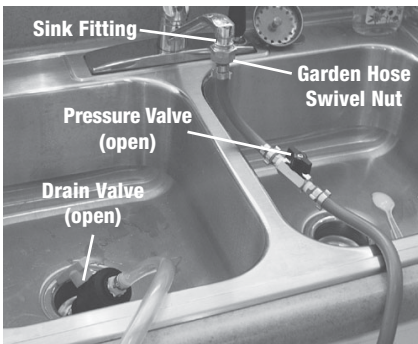

Figure 11: Hoses hooked to sink
1. Tighten the garden hose swivel nut (fig. 11) on the sink fitting. Turn hot water valve all the way open and open the pressure valve (fig. 11). If you are doing commercial carpet and are working off a small water heater, turn both the hot and cold water on.
2. Open drain valve and place in sink, toilet, or other drain (fig. 11 & 12).